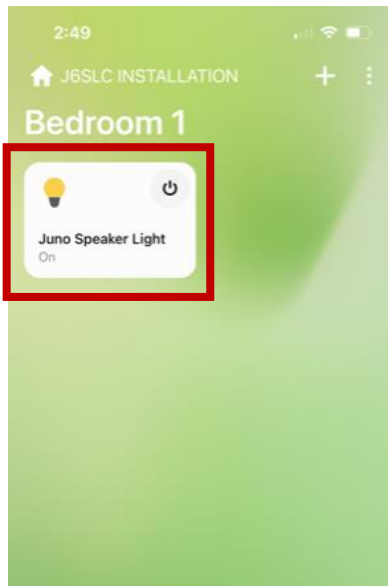

Figure 7
1. Select the unit on the SmartThings app. (Figure 7)